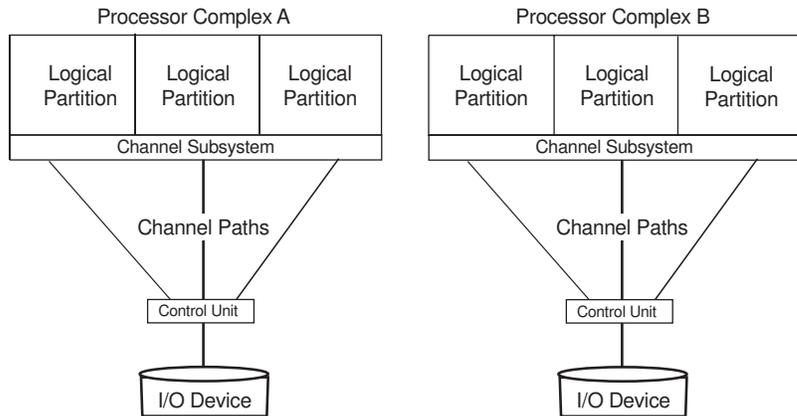

Figure 2-5. Shared Channel Paths
Figure 2-5 on page 2-19 compares three unshared channel paths to a single shared channel path. In processor complex A, three logical partitions can access an I/O device through three unshared channel paths. In processor complex B, which has MIF capability, three logical partitions can access an I/O device through a single shared channel path.
- Using shared ESCON and FICON channel paths does not reduce the number of logical paths needed at a control unit. A control unit requires a logical path for each logical partition that can access a shared channel path. For example, in Figure 2-5, the control units shown connected to processor complexes A and B both require three logical paths for the three logical partitions.